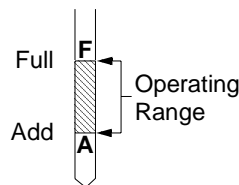
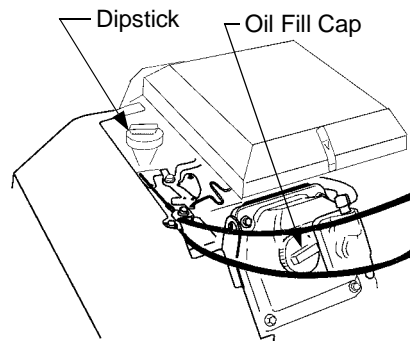
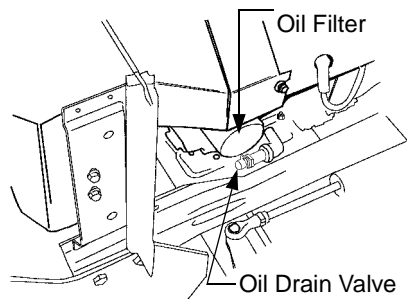

Figure 22
Figure 23
Figure 25
Before checking the oil level, clean the area around the oil level dipstick to prevent debris from entering the crankcase. See Figure 23. Always keep the oil level between the "FULL" and the "ADD" marks on the dipstick. See Figure 22.
- Clean the area around the oil filler cap to prevent debris from entering the crankcase. See Figure 23.
- Remove the oil filler cap from the left valve cover and SLOWLY pour in oil. Fill the crankcase until the oil level reaches the "FULL" mark on the dipstick. See Figure 22.
- Clean around the base of the oil filter, the oil filler cap, and the dipstick tube to prevent debris from entering the crankcase. See Figure 23 and Figure 25.